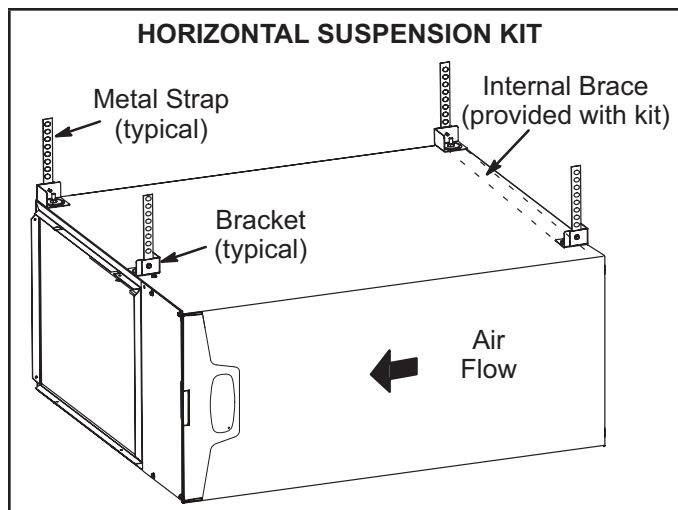
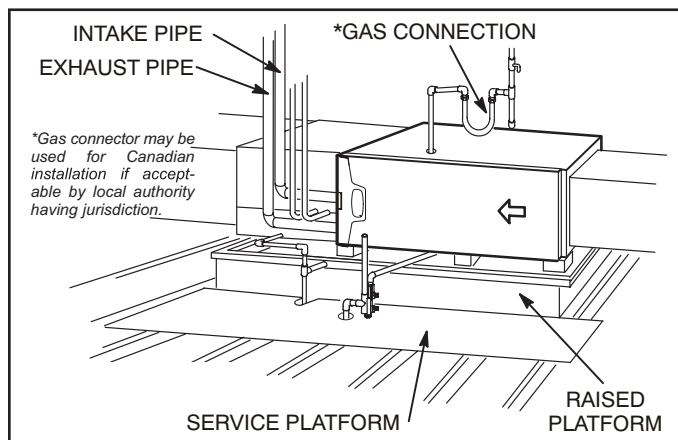

FIGURE 18
FIGURE 19
This furnace may be installed in either an attic or a crawlspace. Either suspend the furnace from roof rafters or floor joists, as shown in FIGURE 18, or install the furnace on a platform, as shown in FIGURE 19. A horizontal suspension kit (51W10) may be ordered from Lennox or use equivalent.
- 2 - Construct a raised wooden frame and cover frame with a plywood sheet. If unit is installed above finished space, install an auxiliary drain pan under unit. Set unit in drain pan as shown in FIGURE 19. Leave 8 inches for service clearance below unit for condensate trap.